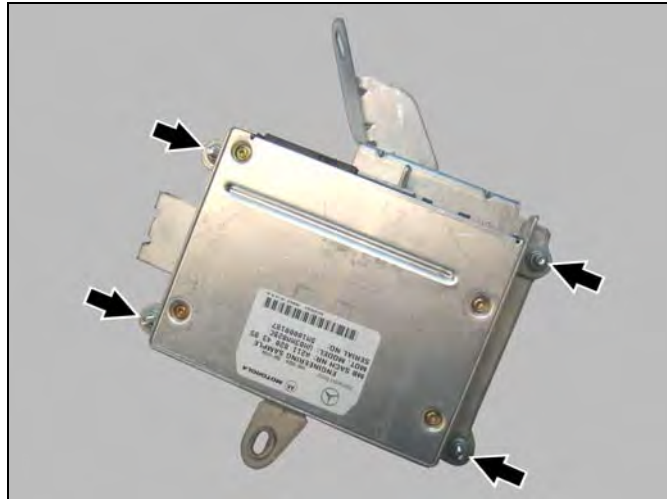

Figure 12
1. Fasten the MHI control module to the threaded studs on the bracket front with four M5 nuts (Figure 12).